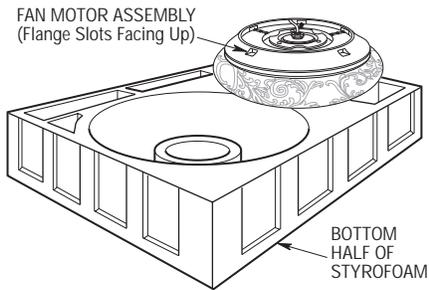

Figure 7
- 2. Position the bottom half of the styrofoam packaging on the floor (Figure 7). Turn the fan motor assembly upside down onto the styrofoam in preparation for mounting the fan blade assemblies.